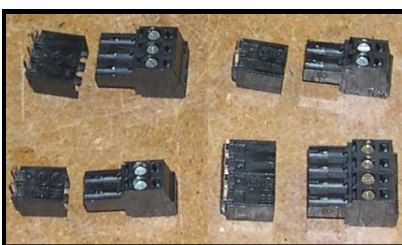

Figure 1c. Full Connector Kit
- You may also have bought the Full Connector Kit shown in Figure 1c which is not mandatory for assembly .